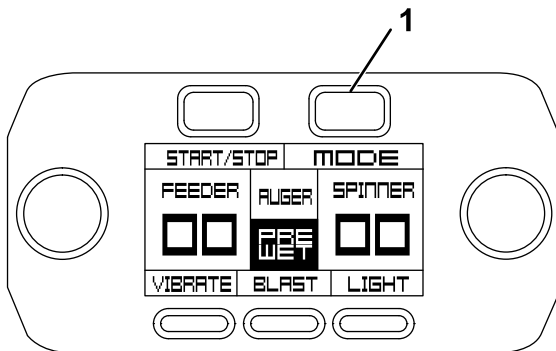

Figure 46
- To set the flow speed, press the Mode button on the controller (Figure 46).